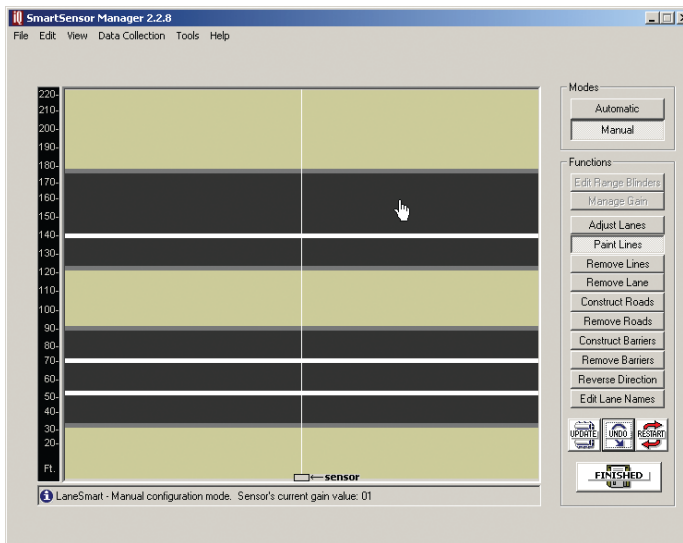

Figure 6.2 – Manual Lane Configuration
- 1 With the Lane Configuration page open, select the **Manual** button; the buttons in the toolbar on the right of the screen will change from gray to black (see Figure 6.2).